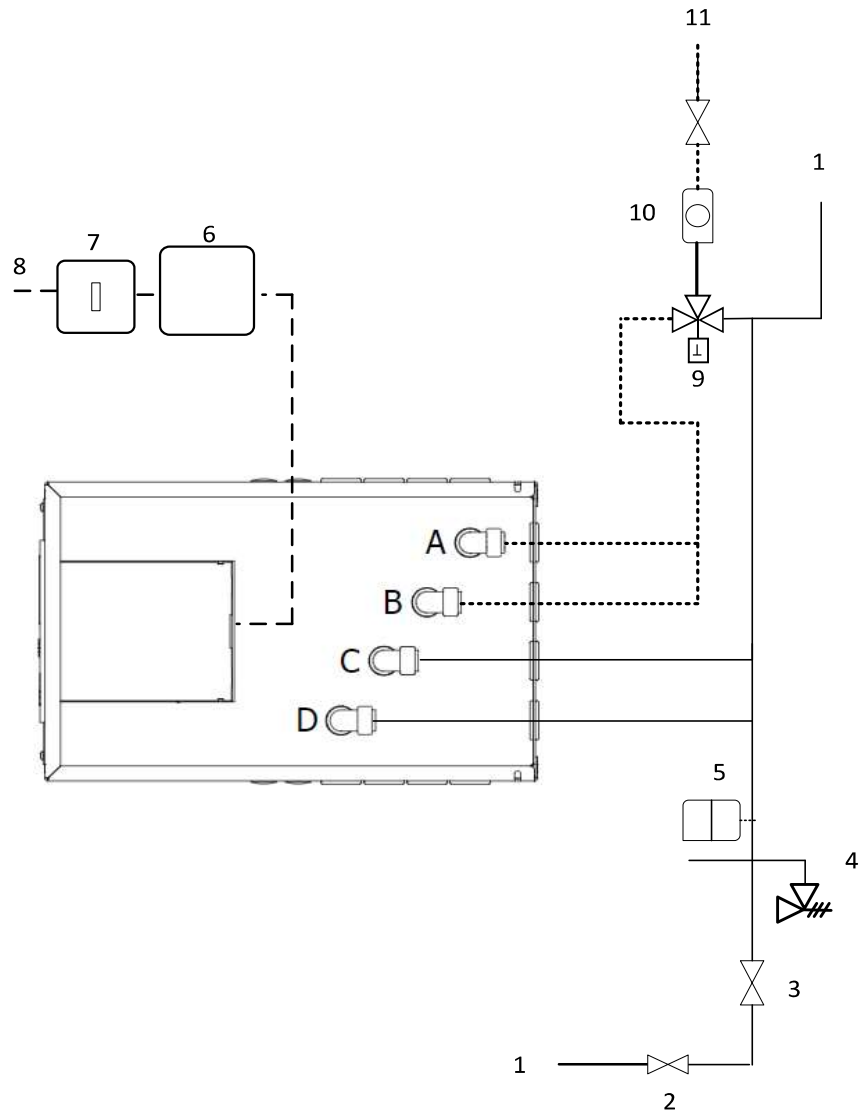

Figure 13.1: UniQ eHW 12 +iPV schematic (see Figure 3a for piping and electrical options available)
- Run and connect 4 Core mains power supply cable (16A, minimum 2.5mm² CSA) from the Solar Power Diverter to the Heat Battery. (Figures 13.1, 13.2, 13.3 & Section 3.9).
Table 13.2: Explanation of components for Figure 13.1 and 13.2.